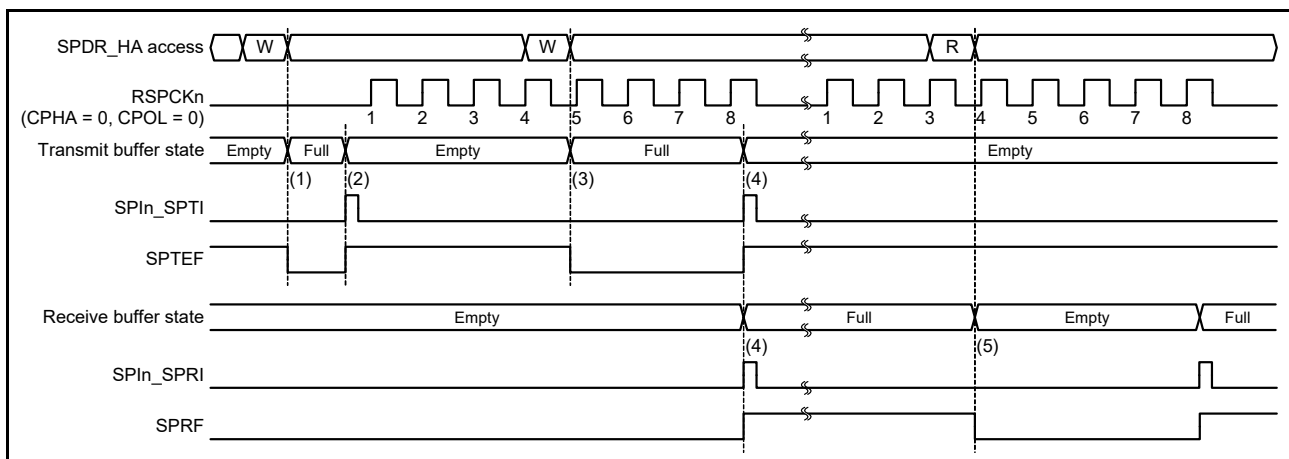
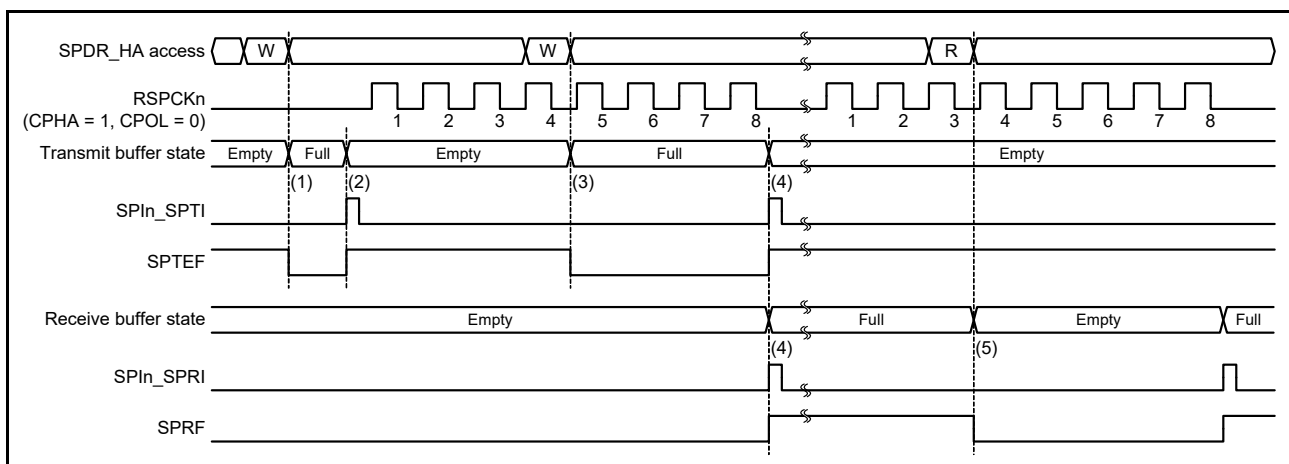

Figure 30.26 Operation example of SPIIn_SPTI and SPIIn_SPRI interrupts when CPHA = 0 and CPOL = 0
Figure 30.27 Operation example of SPIIn_SPTI and SPIIn_SPRI interrupts when CPHA = 1 and CPOL = 0
Figure 30.26 and Figure 30.27 show operation examples of the transmit buffer empty interrupt (SPIIn_SPTI) and the receive buffer full interrupt (SPIIn_SPRI). The register accesses shown in these figures indicate the conditions of access to the SPDR/SPDR_HA register, where W denotes a write cycle and R a read cycle. In Figure 30.26, the SPI performs an 8-bit serial transfer when the SPCR.TXMD bit is 0, the SPCMD0.CPHA bit is 0, and the SPCMD0.CPOL bit is 0.
In Figure 30.27, the SPI performs an 8-bit serial transfer in which the SPCR.TXMD bit is 0, the SPCMD0.CPHA bit is 1, and the SPCMD0.CPOL bit is 0. The numbers given for RSPCKn in the waveform represent the number of RSPCK cycles, such as the number of transferred bits.
The operation of the SPI at timings (1) to (5) in Figure 30.27 is as follows:
- (1) When transmit data is written to SPDR/SPDR_HA with the transmit buffer of SPDR/SPDR_HA empty and data for the next transfer not set, the SPI writes data to the transmit buffer and clears the SPSR.SPTEF flag to 0.
- (2) If the shift register is empty, the SPI copies data in the transmit buffer to the shift register, generates a transmit buffer empty interrupt request (SPIIn_SPTI), and sets the SPSR.SPTEF flag to 1. How a serial transfer is started depends on the SPI mode. For details, see section 30.3.10, SPI Operation, and section 30.3.11, Clock Synchronous Operation.
- (3) When transmit data is written to SPDR/SPDR_HA either by the transmit buffer empty interrupt routine, or by the processing of the transmit buffer empty using the SPTEF flag, the SPI writes data to the transmit buffer and clears the SPTEF flag to 0. Because the serially transferred data is stored in the shift register, the SPI does not copy the data in the transmit buffer to the shift register.
- (4) When the serial transfer ends with the SPDR/SPDR_HA receive buffer empty, the SPI copies the receive data in the shift register to the receive buffer, generates a receive buffer full interrupt request (SPIIn_SPRI), and sets the SPRF flag to 1. Because the shift register is empty on completion of the serial transfer, when the transmit buffer was full before the serial transfer ended, the SPI sets the SPTEF flag to 1 and copies data in the transmit buffer to the shift register. Even when received data is not copied from the shift register to the receive buffer in an overrun error status, on completion of the serial transfer, the SPI determines that the shift register is empty, so data transfer from the transmit buffer to the shift register is enabled.
- (5) When SPDR/SPDR_HA is read either by the receive buffer full interrupt routine or by the processing of the receive buffer full interrupt using the SPRF flag, the receive data can be read.